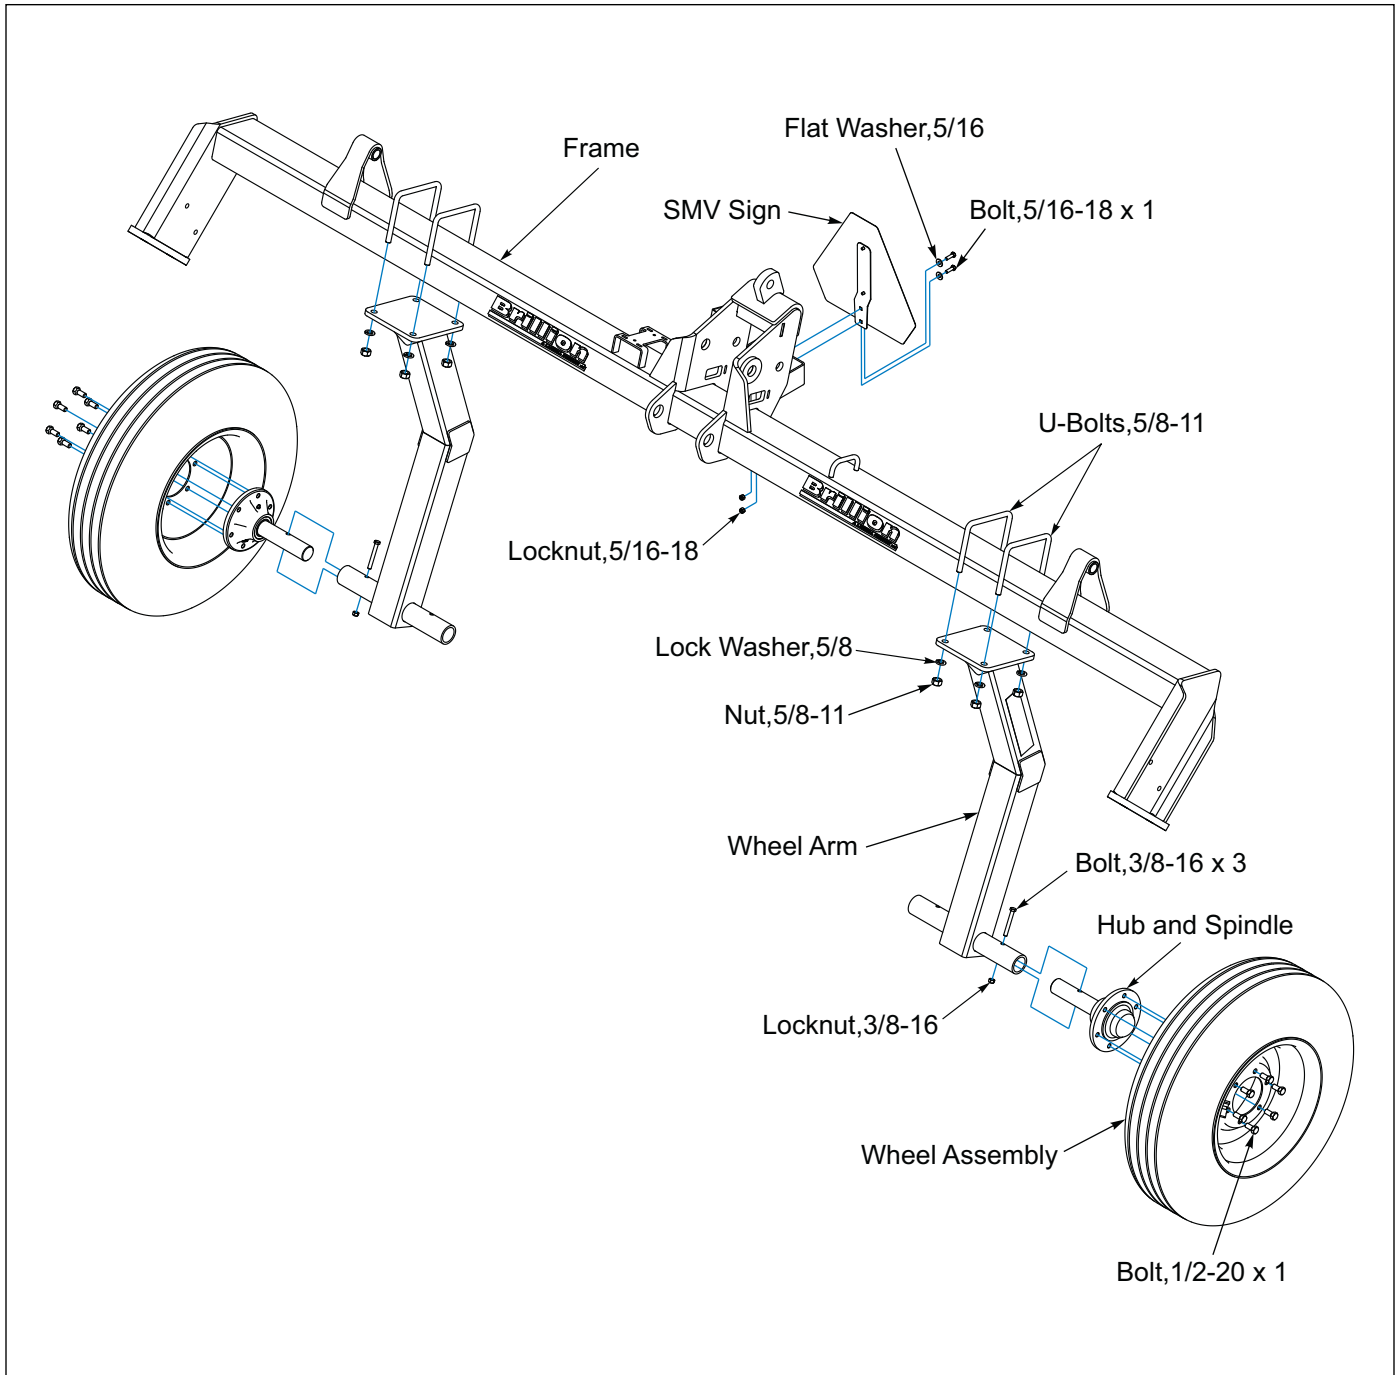

Figure 2-2: Wheel Arm Installation, 10FT - 16FT Models
1. Using 5/8-11 U-Bolts, Lock Washers and Nuts, attach the Wheel Arms to the Frame. See **Figure 2-2**. View oriented for clarity.